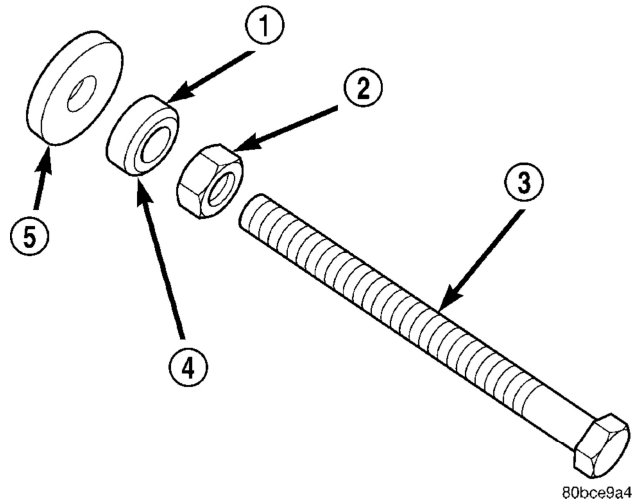

Fig. 18 Proper Assembly Method for Special Tool 8512
(2) Assemble Special Tool 8512-A as follows, The nut is threaded onto the shaft first. Then the roller bearing is placed onto the threaded rod (The hardened bearing surface of the bearing **MUST** face the nut). Then the hardened washer slides onto the threaded rod (Fig. 18). Once assembled coat the threaded rod's threads with Mopar® Nickel Anti-Seize or (Loctite No. 771).